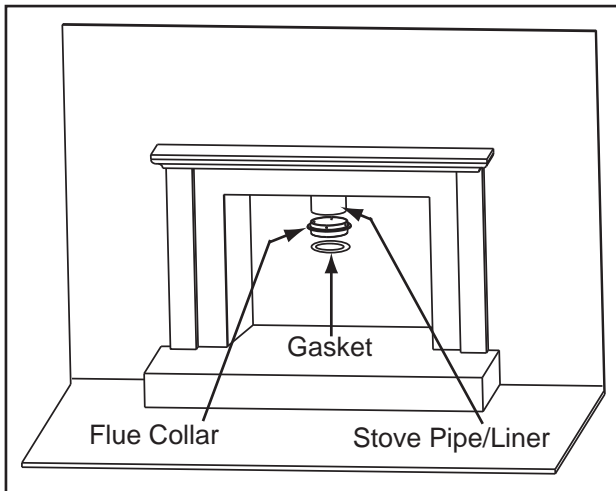

Figure 20.1
1. There are 4 pre-drilled holes in the flue collar 90 degrees apart. Attach the flue collar to the stove pipe/liner. If the seal is questionable use high temperature sealant such as stove mastic **Figure 20.1**.